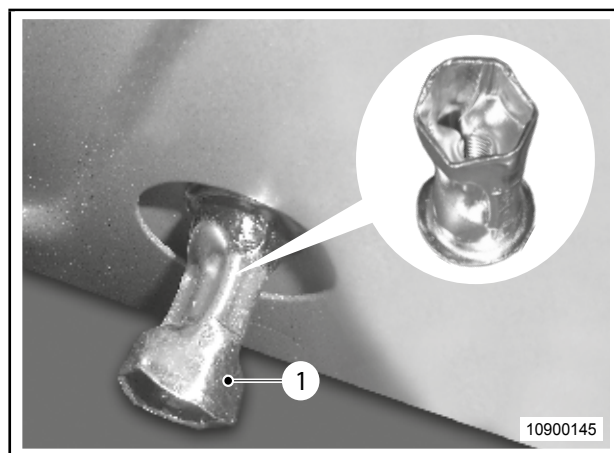

Fig. 90 Rear nut
5. Loosen the nuts (Fig. 90, item 1) on the rear lights using a ring wrench (SW 17) and unscrew by hand. Each rear light has two nuts (Fig. 90, item 1).